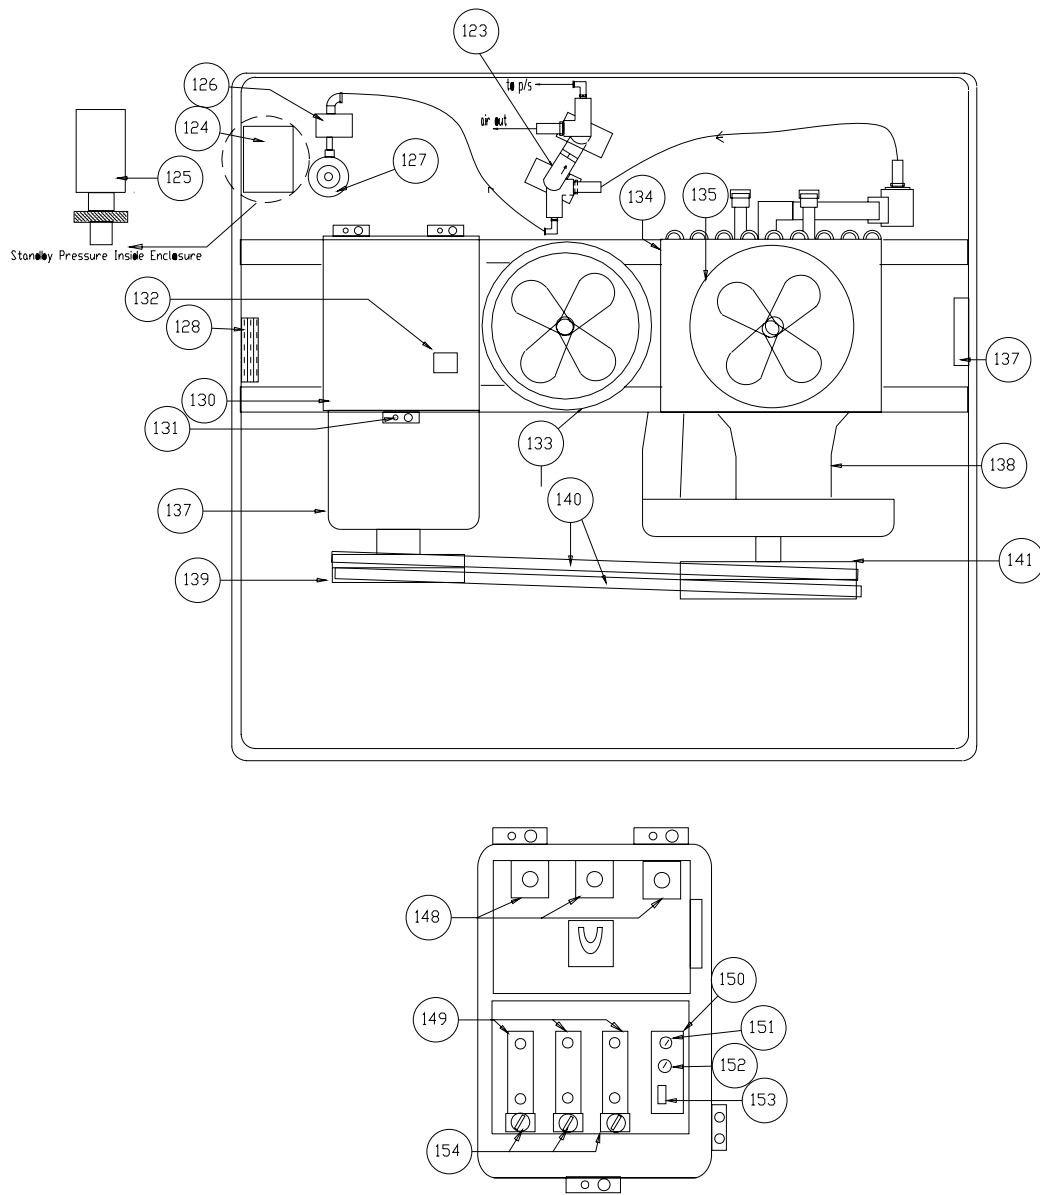

Figure 6
7.2.14 Compressor Interior (Fig. 6)
7.2.15 Compressor Starter Box Interior (Fig. 6)
(Fig. 6)